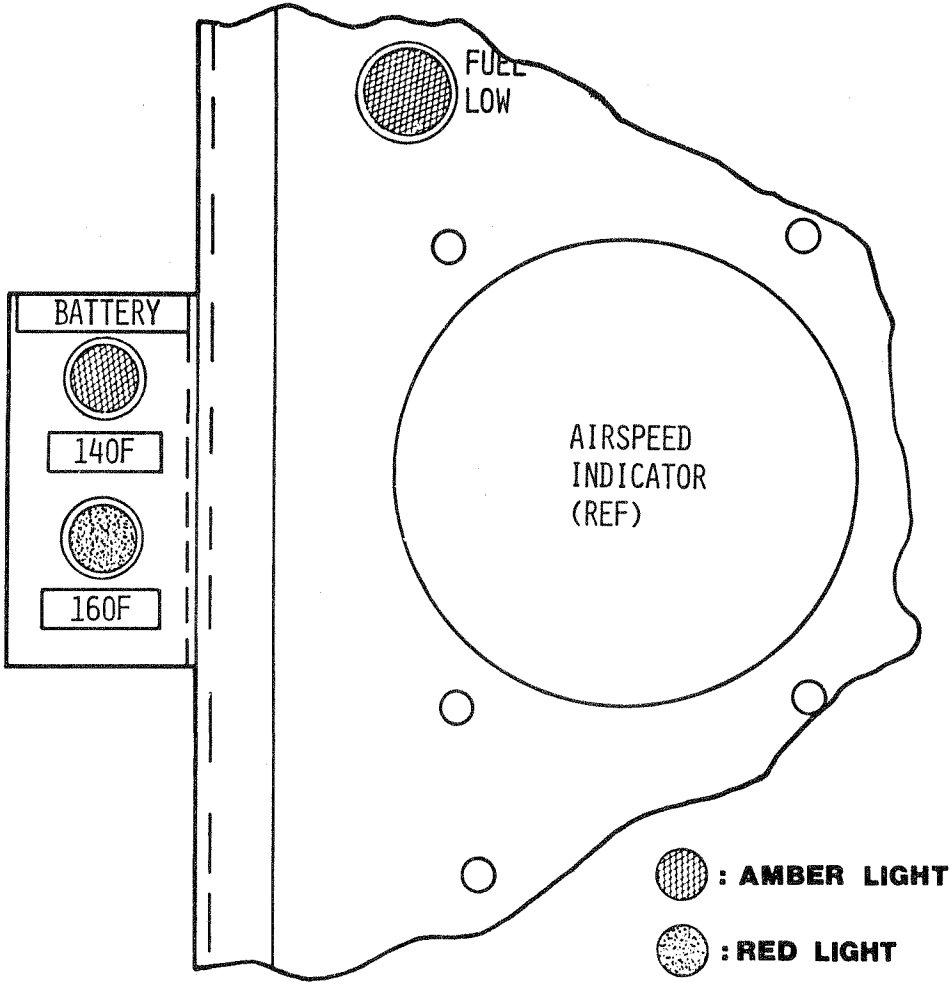

Figure 3-1. Battery Temperature Warning Lights
- a. Refer to Figure 3-1.
- a. See Figure 3-1.